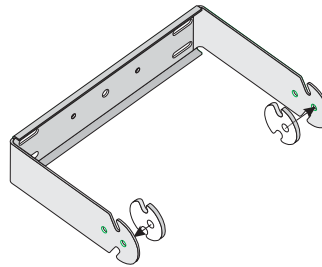
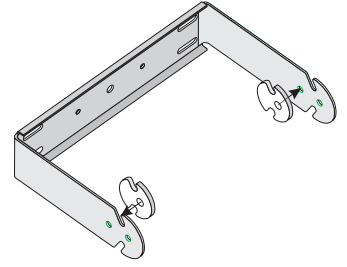

Figure 1- Gasket location for outermost holes.
Figure 2- Gasket location for innermost holes.
Step 4. If using the open slots or the outermost holes, remove the non-stick backing from each gasket and stick the gasket to the inner surface of each arm of the bracket with its center hole and slots aligned (Figure 1). When using the innermost hole, stick the gasket with its center hole aligned to the innermost captive hole of the bracket (Figure 2).